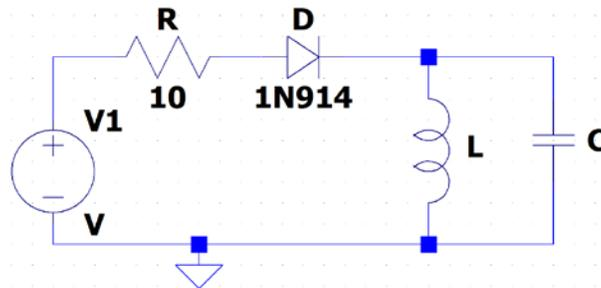

Figure B-1.
Using LC circuits to estimate inductance: Now we will use a different experimental method to estimate the coil inductance. In the circuit of Figure B-1, V1 is the Analog Discovery function generator. R is a resistor added to both limit and measure the current from the signal generator. L is the inductance of the coil to be measured. C is a known capacitor chosen to make L easy to determine. D is a diode used to direct current toward the inductor and to shut off current when the source voltage goes negative so that the inductor can send its energy to the capacitor.
- Set up the circuit in Figure B-1 on your Protoboard, but be sure that you include the current limiting resistor R . Use the capacitor value and your DIY inductor. Use the 1N914 diodes in your Diligent or Analog parts kit (don't lose it, you will need all four later in the course). Be careful to make sure that the inductor is making contact with the protoboard. Bad connections can be a common problem.